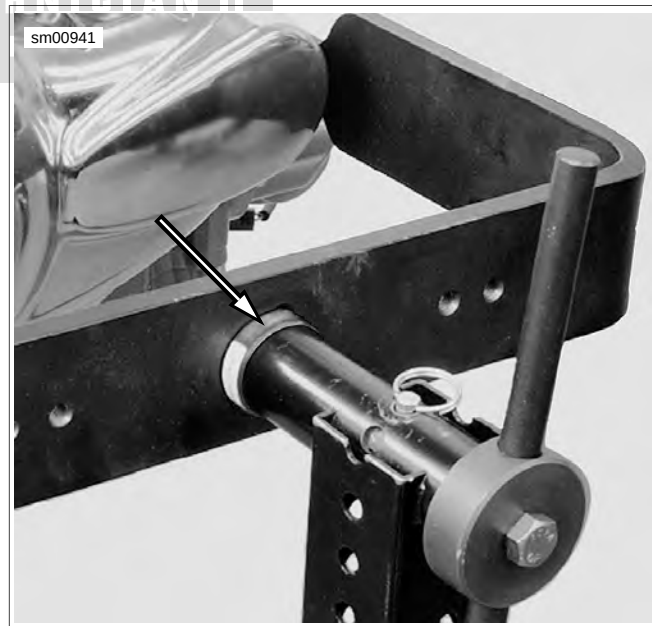

Figure 3-9. Spacer Ring
4. See Figure 3-9. If mounting to ROLLING ENGINE STAND, slide spacer ring from CRADLE LOCKING NUT AND SPACER (Part No. HD-42310-100) on cradle shaft before mounting to stand.